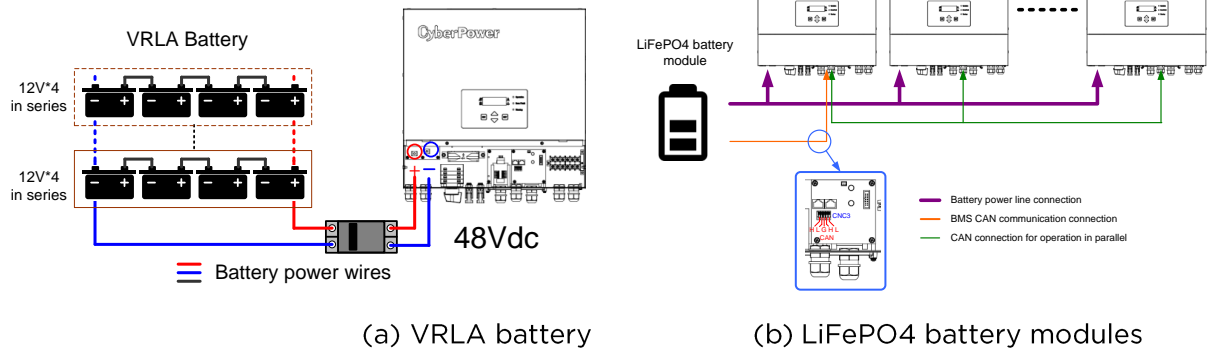

Fig. 3-13 Batteries wiring
4. If install VRLA battery, please refer to Fig. 3-13(a).
5. If install LiFePO₄ battery modules, please refer to Fig. 3-13(b), BMS communication is necessary (refer to 3.8).